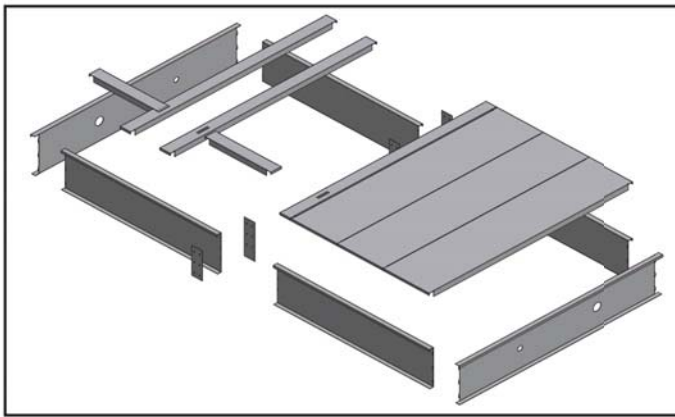

Figure 1
2. Position perimeter pieces as depicted in Figure 1 and Figure 3 with wood to the outside, keeping the raw ends with the brackets holes facing one another.
5. Install duct support pieces per Figure 1 and Figure 2.